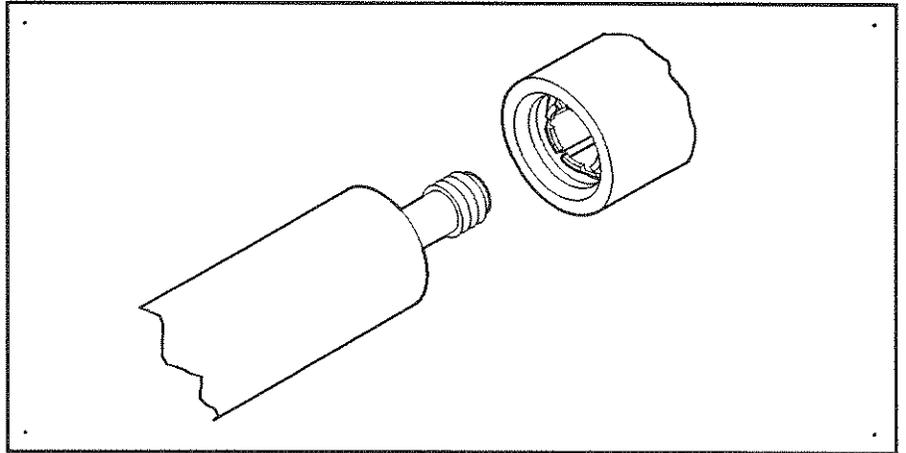

Figure A-9. Inserting the Removal Tool
- a. Under magnification, *carefully* try to insert the removal tool (see Figure A-9).